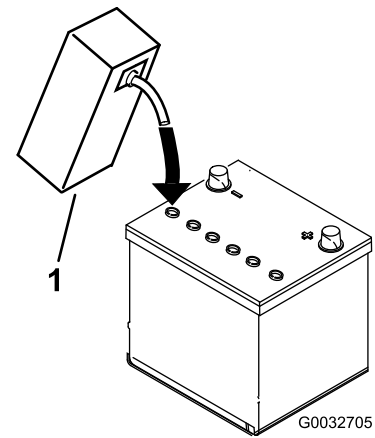

Figure 4
3. Carefully fill each cell with electrolyte until the plates are covered with about 6 mm (1/4 inch) of fluid (Figure 4).
4. Allow approximately 20 to 30 minutes for the electrolyte to soak into the plates. Fill as necessary to bring the electrolyte to within about 6 mm (1/4 inch) of the bottom of the fill well (Figure 4).